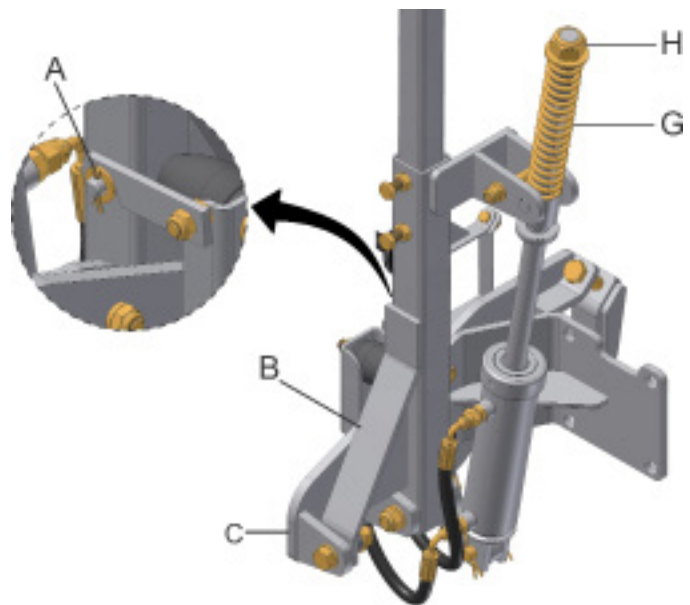

fig. 29
When starting to plant unlock the lock pin (A), from the marker (B), releasing the support (C) (Fig. 29).
When transporting, performing maintenance services or storing the seeder, lock the marker arm through pin (A) (Fig 29).
To adjust the distance the disc marker, loosen the screws (E) from arm (F) (Fig. 30). This type of row marker consists of a copier spring system (G), and possesses pressure regulating through the nut (H), thus allowing a reading uniform and easy adjustment in various types of soil (Fig 29).